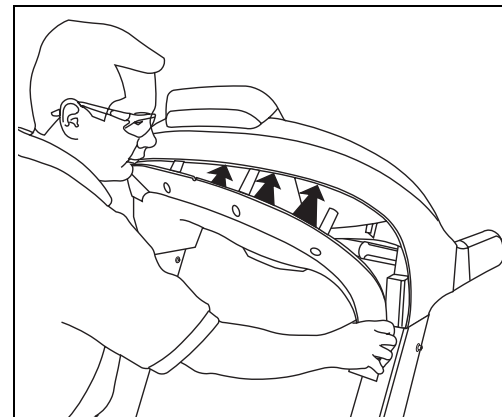

Figure 17: Replace display console back cover
13. Replace the display console back cover by positioning one side above the upright support fasteners. Pull in on the other side to flex the cover which allows you to push it up and slide it past the fasteners on the upright support. See Figure 17.